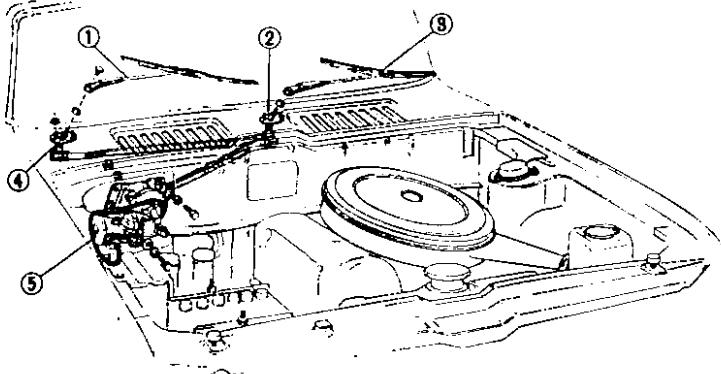

Fig. M.34 Wiper motor and linkage.
1. Remove the connector plug from the motor (See Fig.M.34.).